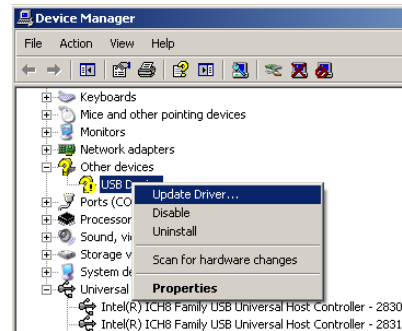

Figure 9: Update Driver
3. After the Data Capture board is connected, the computer should recognize that a USB device has been connected and automatically start the Found New Hardware Wizard. If the wizard does not automatically start, then open the Device Manager by right-clicking 'My Computer' and selecting 'Properties.' From the Properties screen, select the Hardware tab and open the Device Manager as shown in Figure 8. Locate the Unknown Device in the Device Manager, right-click, and select 'Update driver...' as shown in Figure 9 to start the Hardware Update Wizard.